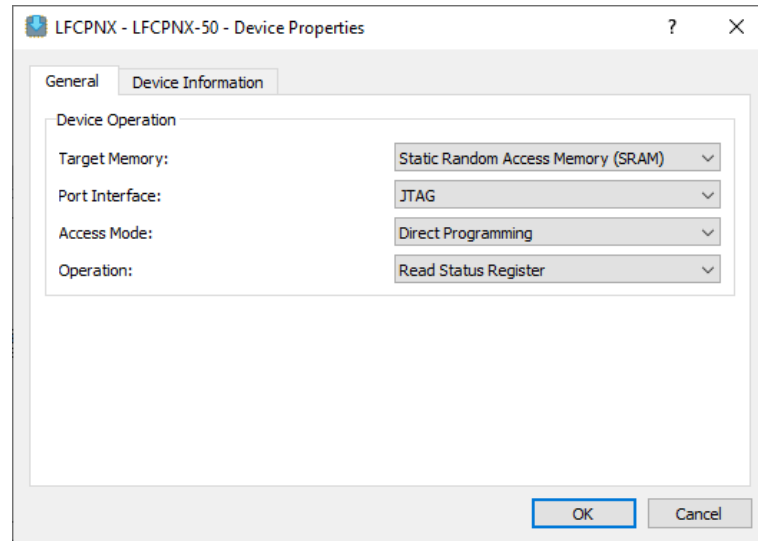

Figure 9.1. Reading Device Status Register using Radiant Programmer
- After the programming is successful, reconfigure or power cycle the FPGA. You should be able to observe the FPGA is now loading the Golden image instead of the Primary image. You can identify which image is loaded to the FPGA by observing the functionality of the design or using the Radiant Programmer to read the Status Register as shown in Figure 9.1.
- Read the Status Register using Programmer as shown in Figure 9.1.